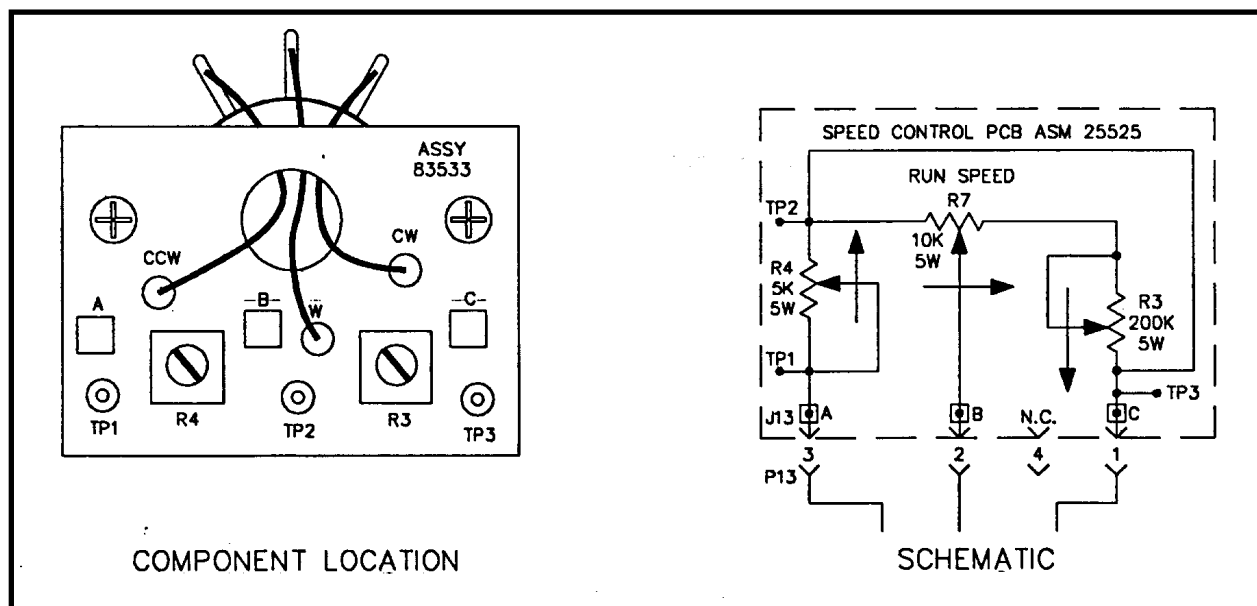

Figure 88b - Component Location and Schematic Diagram
2. At the operator's control panel, check PCB assembly 25525. Refer to Figure 88b for the following steps: